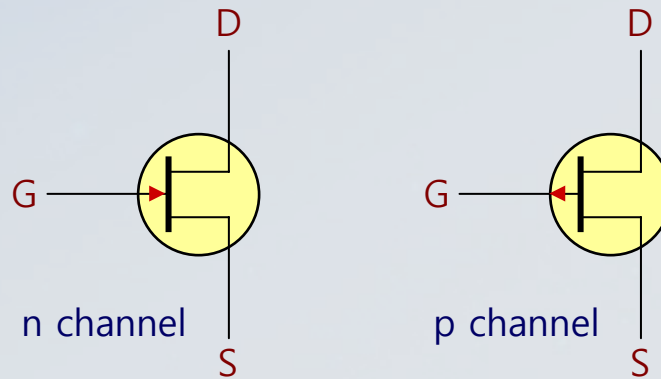

Figure 1-33. *JFET schematic symbols.*
- The schematic symbols for both n -channel and p -channel JFETs are shown in Figure 1-33.